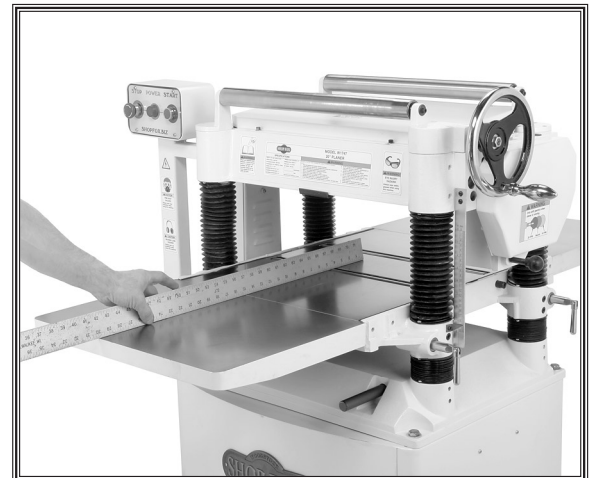

Figure 5. Leveling extension wings and table.
3. Check table-to-extension wing alignment (**Figure 5**) with a straightedge and adjust the leveling set screws until the table and wings are flush.